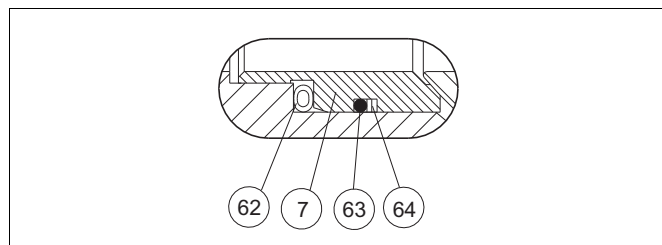

Fig. 27 S-seat
- ❑ Place the back seal (O-ring) (63) into the groove in the seat. See Figures 27, 28 and 29..
- ❑ Place the back-up rings (64) made of PTFE strips at the side of the O-ring. To ensure that the seam becomes flexible, the strip must have slanted ends.
- ❑ Place the spring (62) into the groove in the seat (7). Connect the ends of the spring.
- ❑ Place a trunnion bearing (99) into each trunnion plate (89) counterbore.
- ❑ Place a bearing spacer (91) over each ball trunnion.
- ❑ Fit a trunnion plate over each ball trunnion until the plate rests against the bearing spacer (91). This operation must be performed with care and without excessive force or the bearing will be damaged. It may be necessary to tap the plate on with a plastic mallet.
- ❑ Align the trunnion plates (89) relative to the ball port in the closed position.